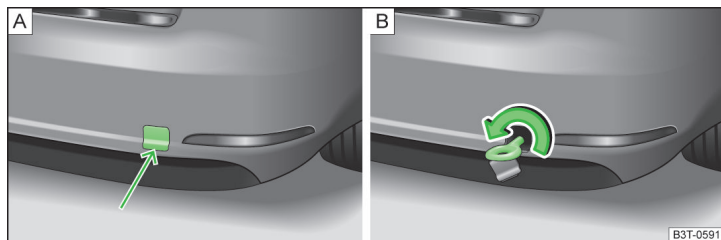

Fig. 186 Removing the cap / installing the towing eye
- ▶ Press onto the bottom part of the cap in the rear bumper » Fig. 186 - A and remove it.
- ▶ Screw in the towing eye by turning to the left up to the stop » Fig. 186 - B and tighten as much as possible. For tightening purposes, we recommend, for example, using the wheel wrench, towing eye from another vehicle or a similar object that can be pushed through the eye.